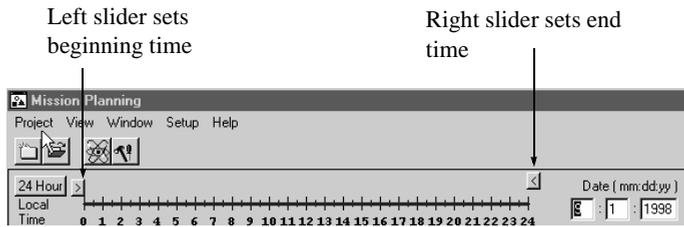

Figure A.2. Time Scale
2. Near the top of the window is a 24-hour time scale (Figure A.2), to specify the time interval you want to determine DOP and satellite availability. Set the time interval using the two sliders   above the scale. To set the start time of the interval, click on the left slider, hold the mouse button down, and move the